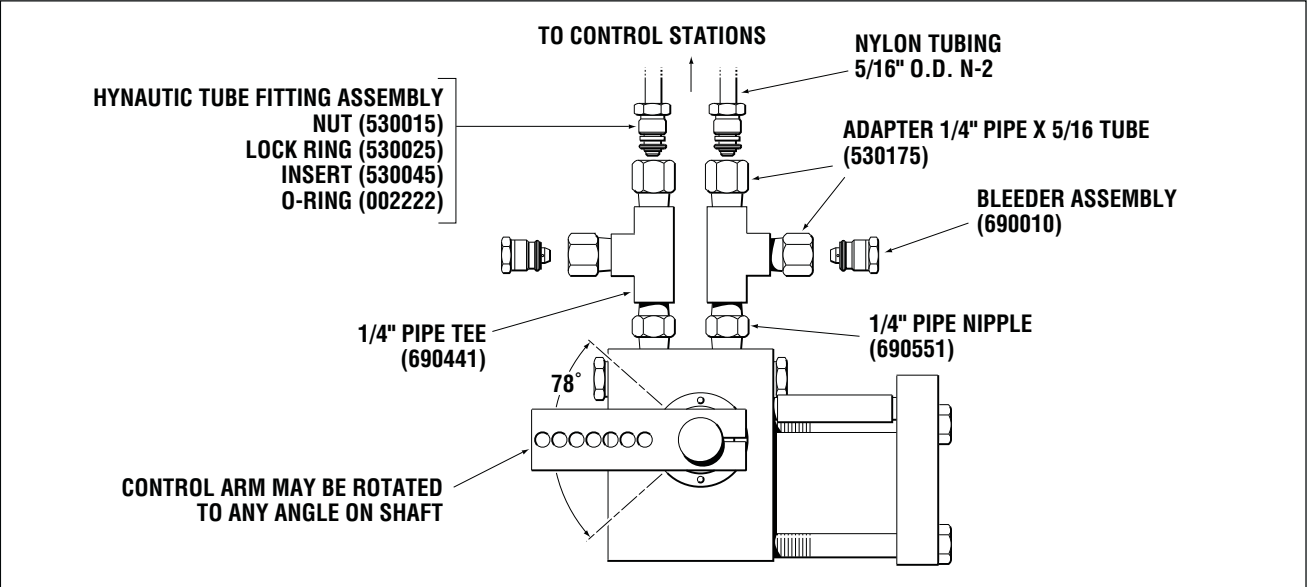

Figure 5. ST-06 Integrated Throttle Slave with Tee and Bleeder Valve Installation.
- 10 Locate a tee and bleeder valve on the throttle slave and install suitable adapters to accept tubing, per Figure 5.